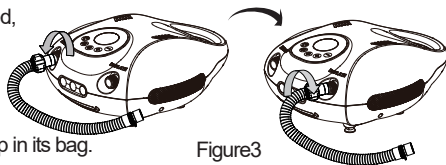

Figure3
- * Remove the hose from the inflation inlet, connect the end with Inlet/ Outlet connector to the air pump deflation outlet. Twist clockwise to tighten it (Figure 3). Insert adapter into valve.